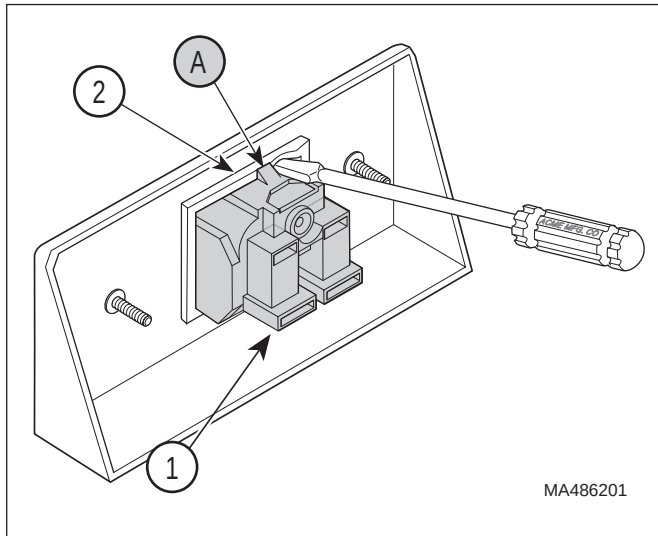

Figure 4-13. Receptacle Removal / Installation
- (7) Remove receptacle (1, Figure 4-13) by using a small flat-bladed screwdriver to pry the switch bezel (2) upward while pressing gently on the back of the receptacle (1) allowing the tabs (A) to "pop" out of the switch bezel.